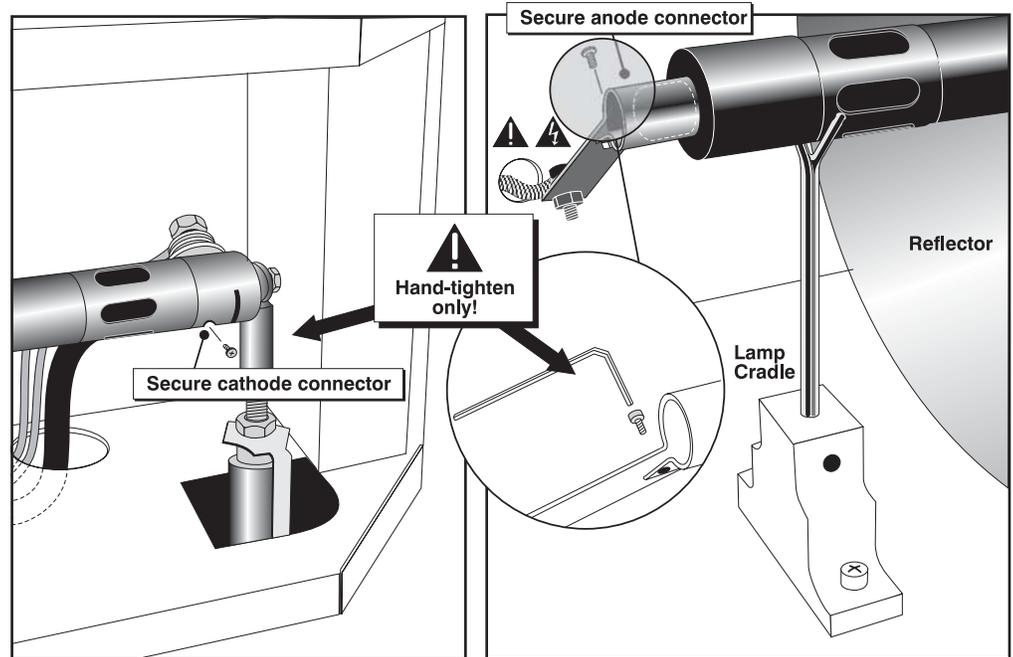

Figure 4.2. Secure bulb at cathode (-) and anode (+) connectors
- 6.1. Loosen set screws from negative/cathode (rear, 7/64”) and positive/anode (front, 3/16”) lamp connectors. These screws are shown in Figure 4.2. **Make sure to apply minimal torque and DO NOT STRESS the quartz tube.**
8.3. Tighten set screws in both negative and positive lamp connectors (Figure 4.2).